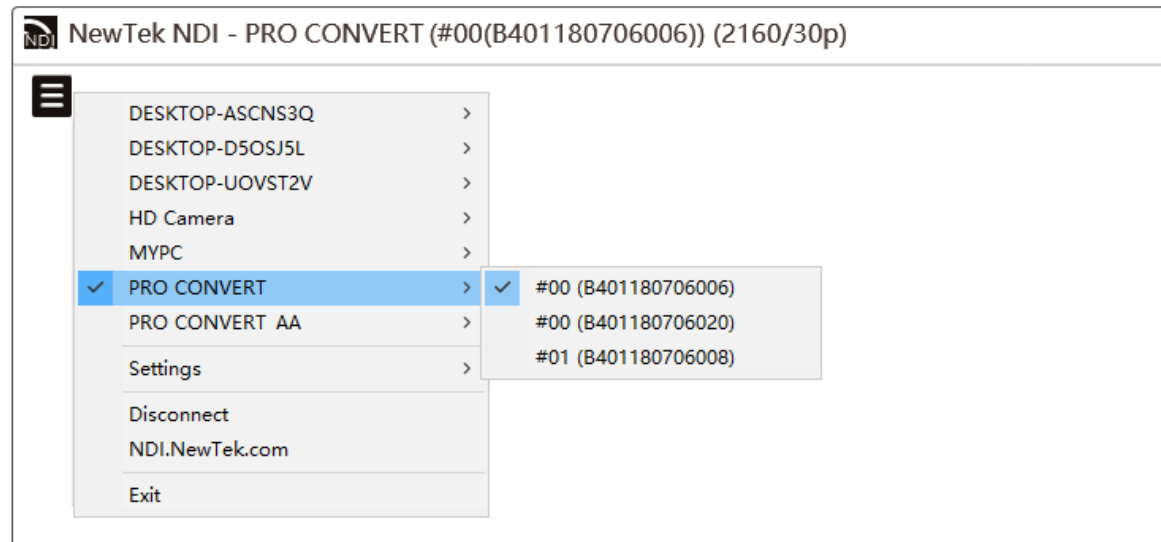

Figure1. Select NDI stream in NDI Studio Monitor
**Step 1** Connect your converter via Ethernet and power it up as shown in the Figure1. Connections.